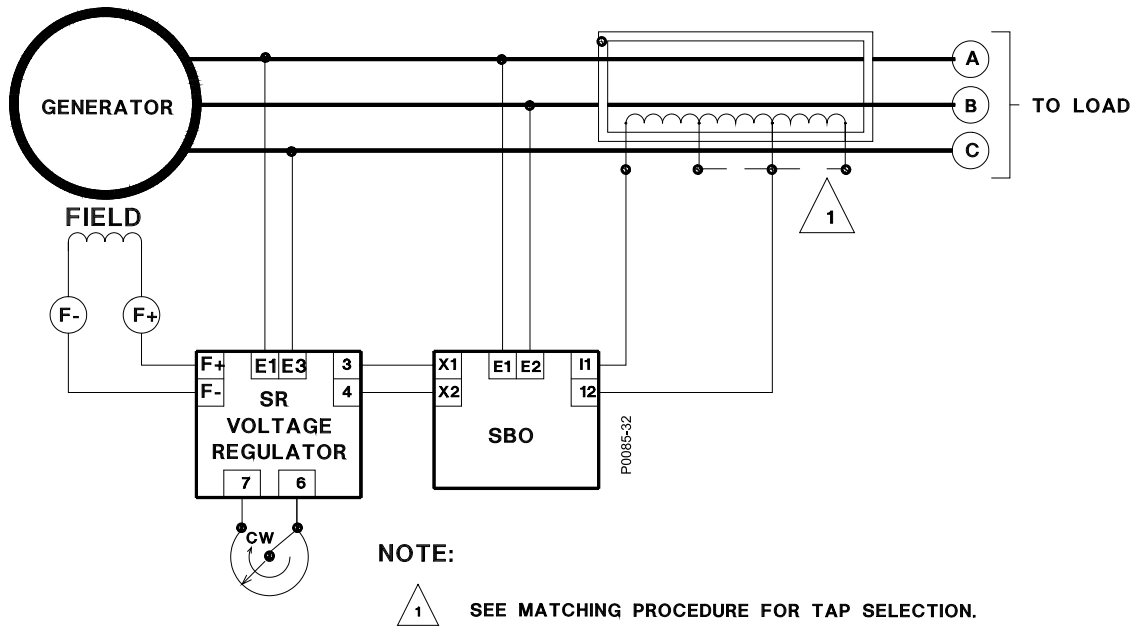

Figure 4. Interconnection, SBO and One CT
Connect the Excitation Support System as shown in Figure 4 or Figure 5. Reservoir assembly schematic diagrams for the six SBO models are provided in Figure 6. The phase relationship between the SBO voltage and current inputs is critical. Incorrect phasing will prevent the Excitation Support System from maintaining sufficient current to the voltage regulator and poor regulation will result.
1. Ensure correct interconnection by comparing the SBO connections with those of Figure 4 or Figure 5.